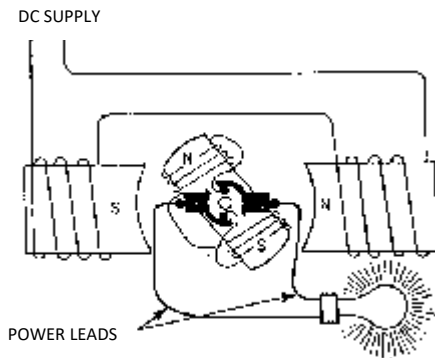

Figure 36
- The current flows to the commutator and through the brush circuit to the machine, light or appliance where it will be used. (See Figure 36)